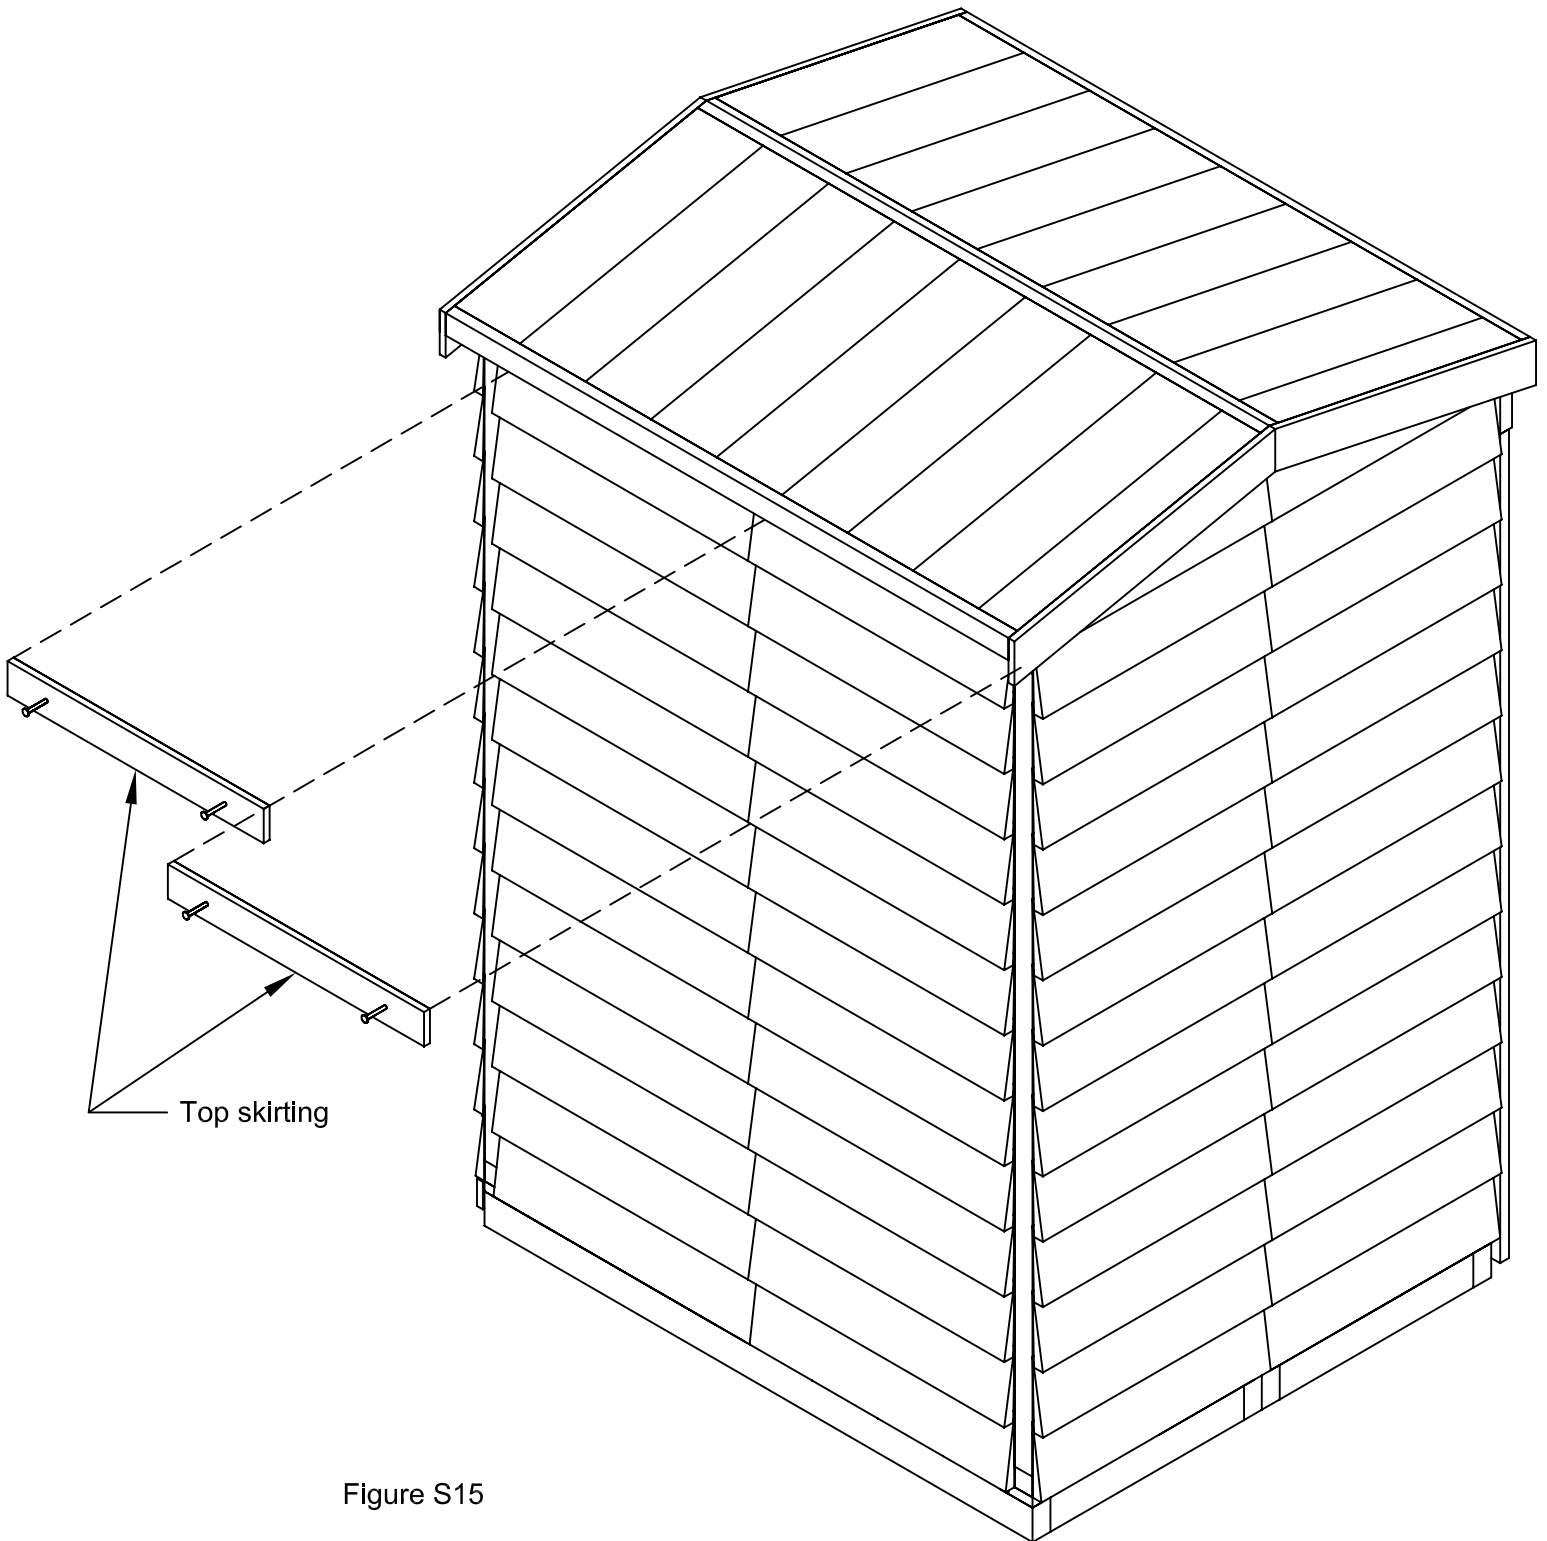

Figure S15
16. Using 2 - 1 $\frac{3}{4}$ " finishing nails, fasten the two top skirting assembly on the back wall as shown in Figure S15.